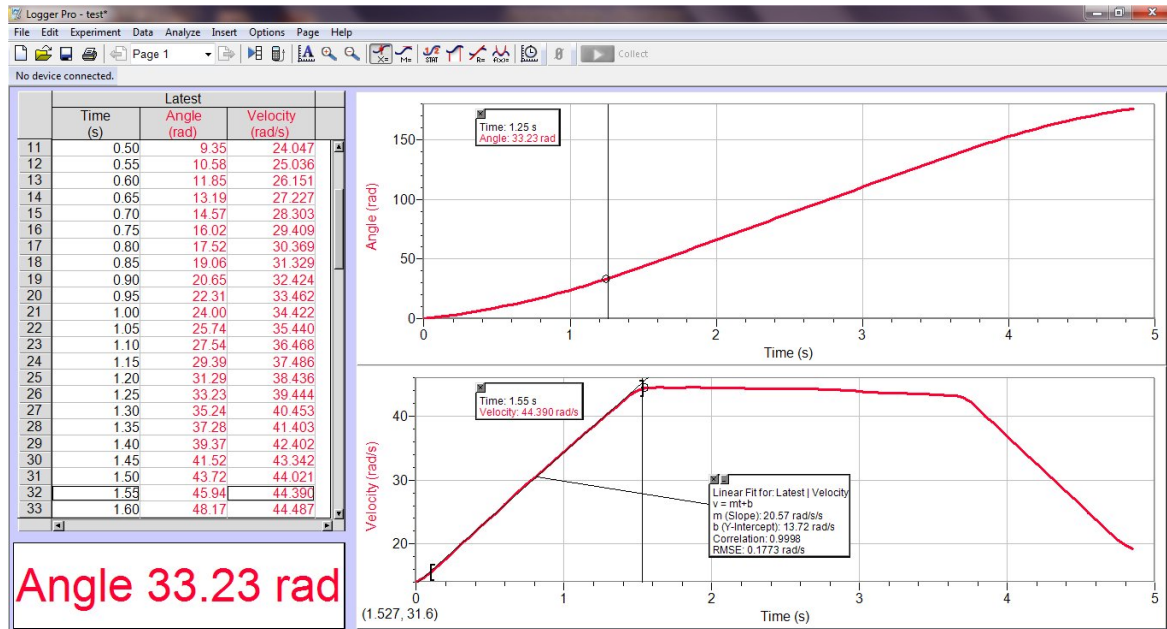

Fig. 2 The screenshot of the LoggerPro3 interface for recording and analyzing the rotational motion data.
1. Click the icon "**Rotational Motion.cml**" on the desktop. This will automatically load the LoggerPro program (Fig. 2) with most of the configuration done for you.